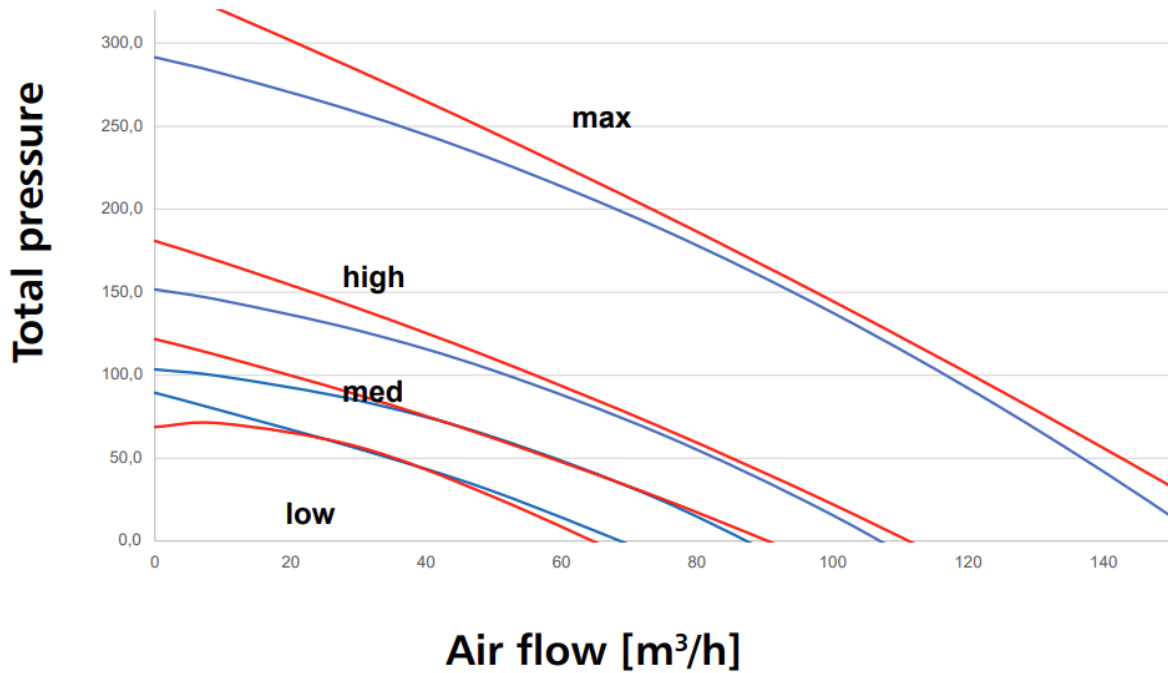

Figure 6 Total pressure for HRU-FlatAIR-120
- HRU-FlatAIR-120-H 120 m3/h (at 100 Pa) [Fig. 6]